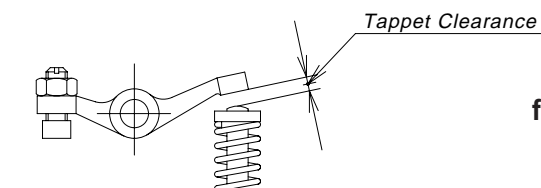

fig.3
- 2 The proper clearance should be set at not more than 0.002" maximum. The adjustment is achieved by loosening the lock nut (fig.3) and turning the adjustment screw. The engine must be at top dead center on the compression stroke before any adjustments are made. This engine runs best with the valves set at a tight setting. If the valves are set too loose ,power will be affected.